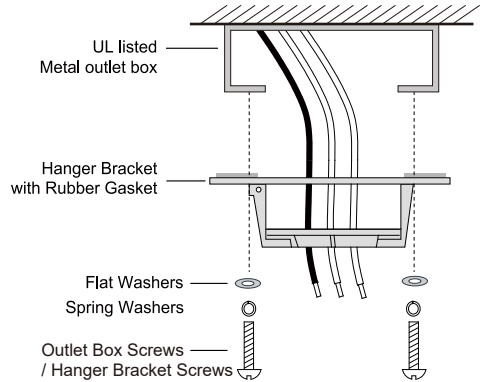

Fig.5
Step 1. Secure the hanger bracket to the ceiling outlet box using screws and washers included with mounting hardware. (Fig.5)
2. Pass the 120-volt supply wires through the center hole in the ceiling hanger bracket as shown in Fig. 5.